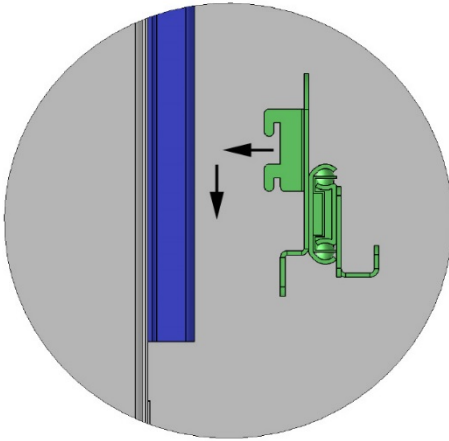
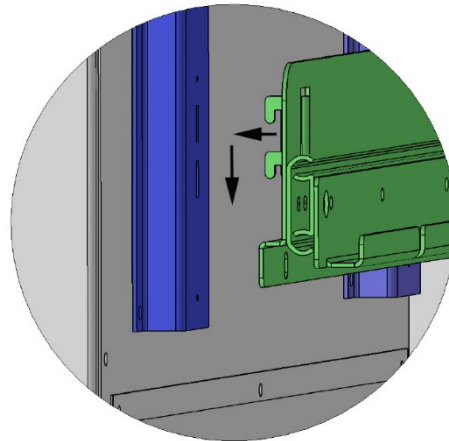

Figure 7: Sliding Shelf Mounting Bracket Installation
Figure 8: Sliding Shelf Mounting Bracket Installation
1. Insert the sliding bracket tabs into the mounting slots on the shelf standard rails. See Figure 7 and Figure 8.